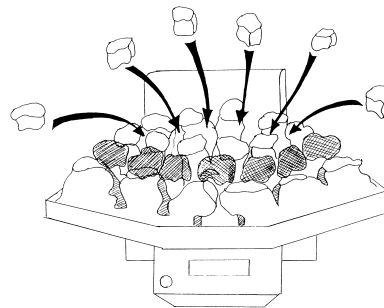

fig.3
4. Install all the loose coals as follows (18 coals for the 18" unit, 15 coals for the 16" unit) Place 7 coals (6 coals for the 16" unit) across the gap between the front coal matrix and main coal bed. Place a further 6 loose coals (5 for the 16" unit) on the main coal beds sloping back to the rear ceramic plaque.(fig.3.)